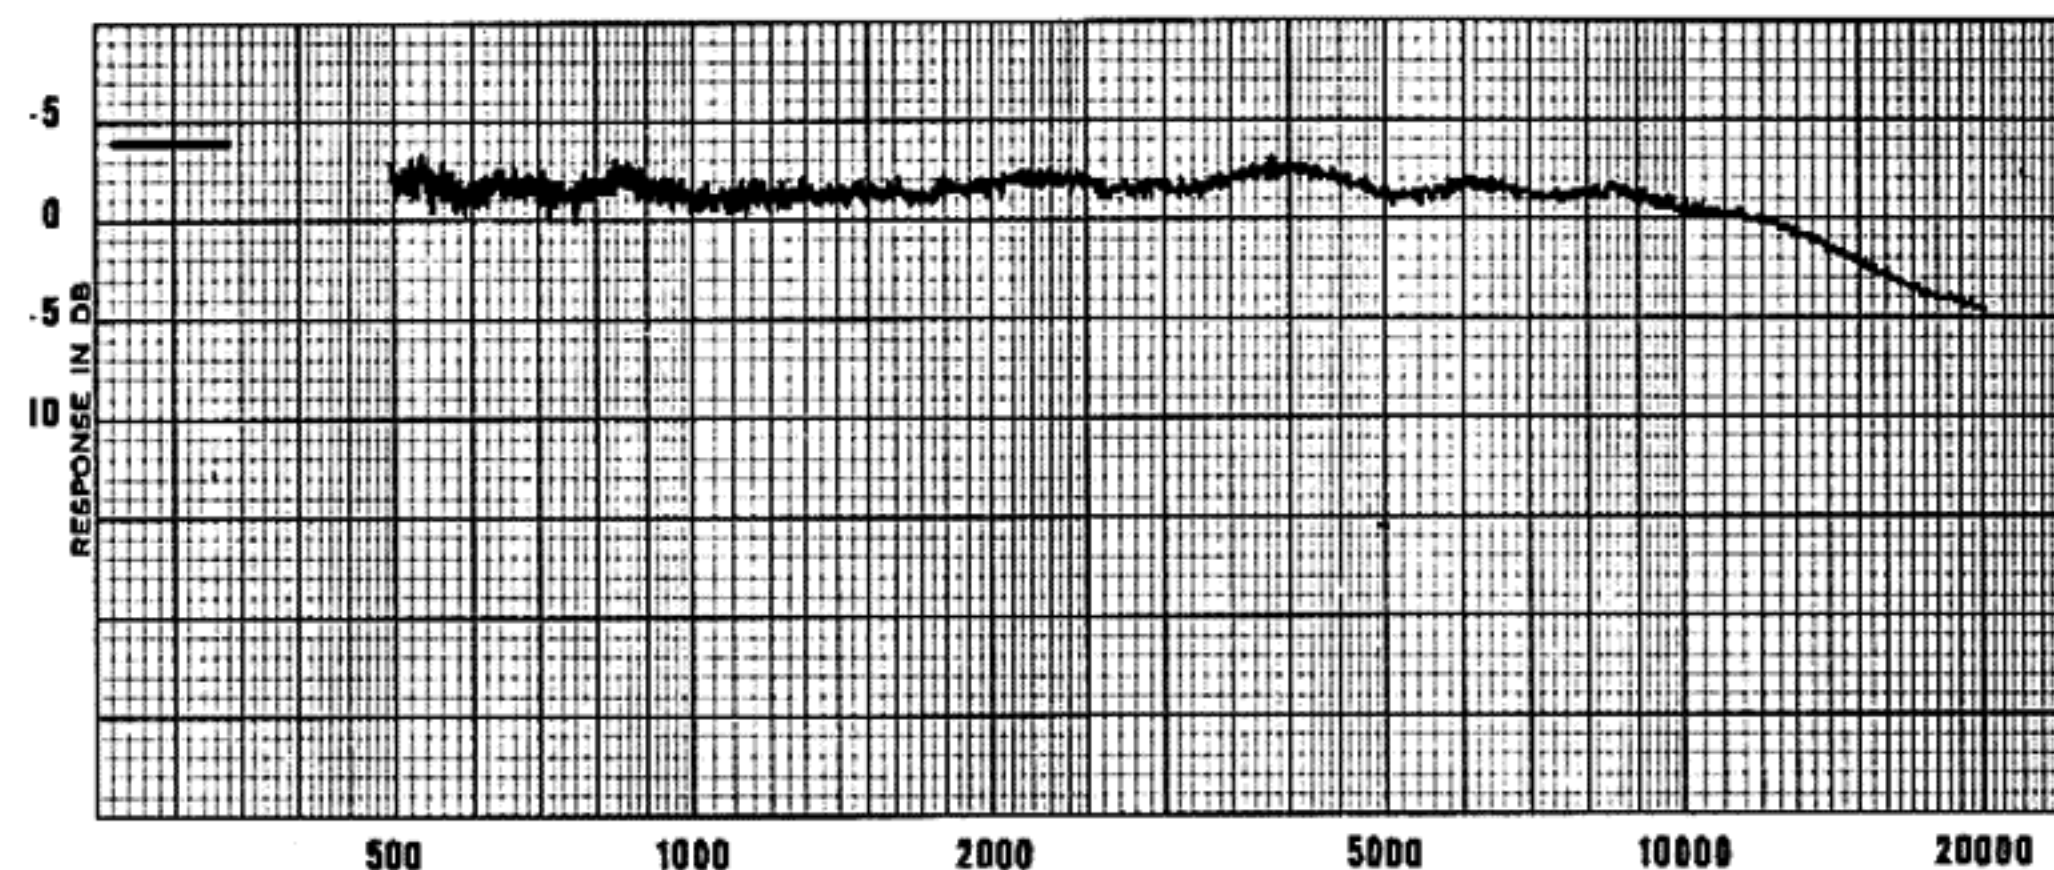

**Figure 1: AR-LST Spectral Energy Profiles**
Figure 1 shows typical  $\frac{1}{3}$ -octave energy-output curves for each of the switch positions, from 500 Hz through 20 kHz. Below 500 Hz the energy output is influenced by the acoustic environment; the woofer output into a  $2\pi$  steradian anechoic environment is shown in Figure 3. Because in this frequency range the system is completely nondirectional, the anechoic curve can be used to extend Figure 1 below 500 Hz when the AR-LST is placed with its back against the middle of a wall. The only differences will be those produced by variations in loading imposed by room reflections. Low-frequency output will be increased above that shown if the cabinet is placed in a corner; it will be decreased if the system is not close to a wall.
A. Total acoustic power output *vs.* frequency above 500 Hz, Figure 1.